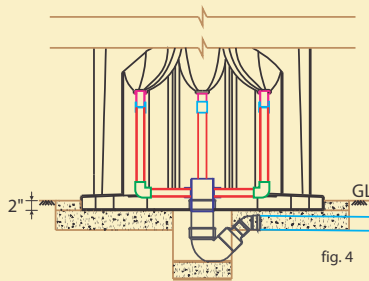

fig. 4
3. Make the connections of waste pipes with height riser fitted on P-traps as shown in fig. 4.
the concrete bed in the central pit. Then provide 2" PCC layer to encase the base as shown in fig. 4.